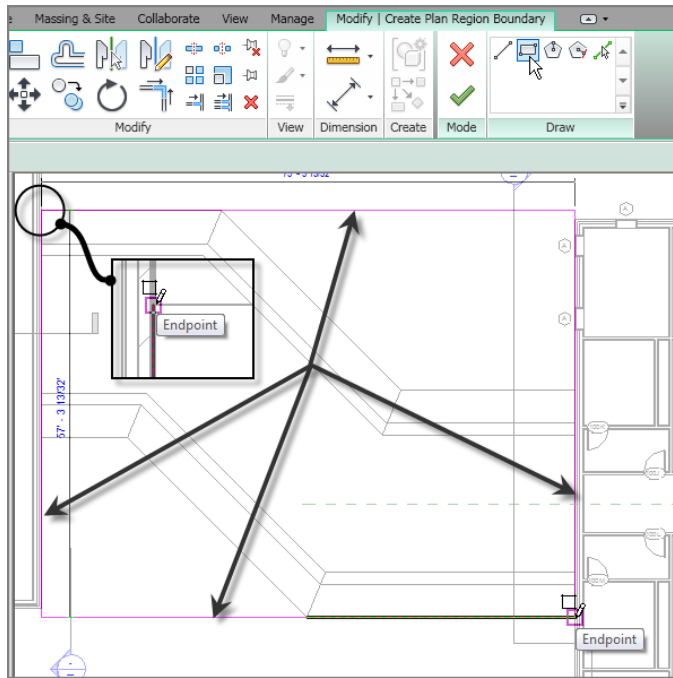

FIGURE 7.35: Creating the rectangle that forms the perimeter of the plan region
3. On the Draw panel, click the Rectangle button, as shown in Figure 7.35.
4. Draw a rectangle around the corridor (see Figure 7.35). Be sure to snap to the exact points where the roof meets the taller walls on the east and west wings.